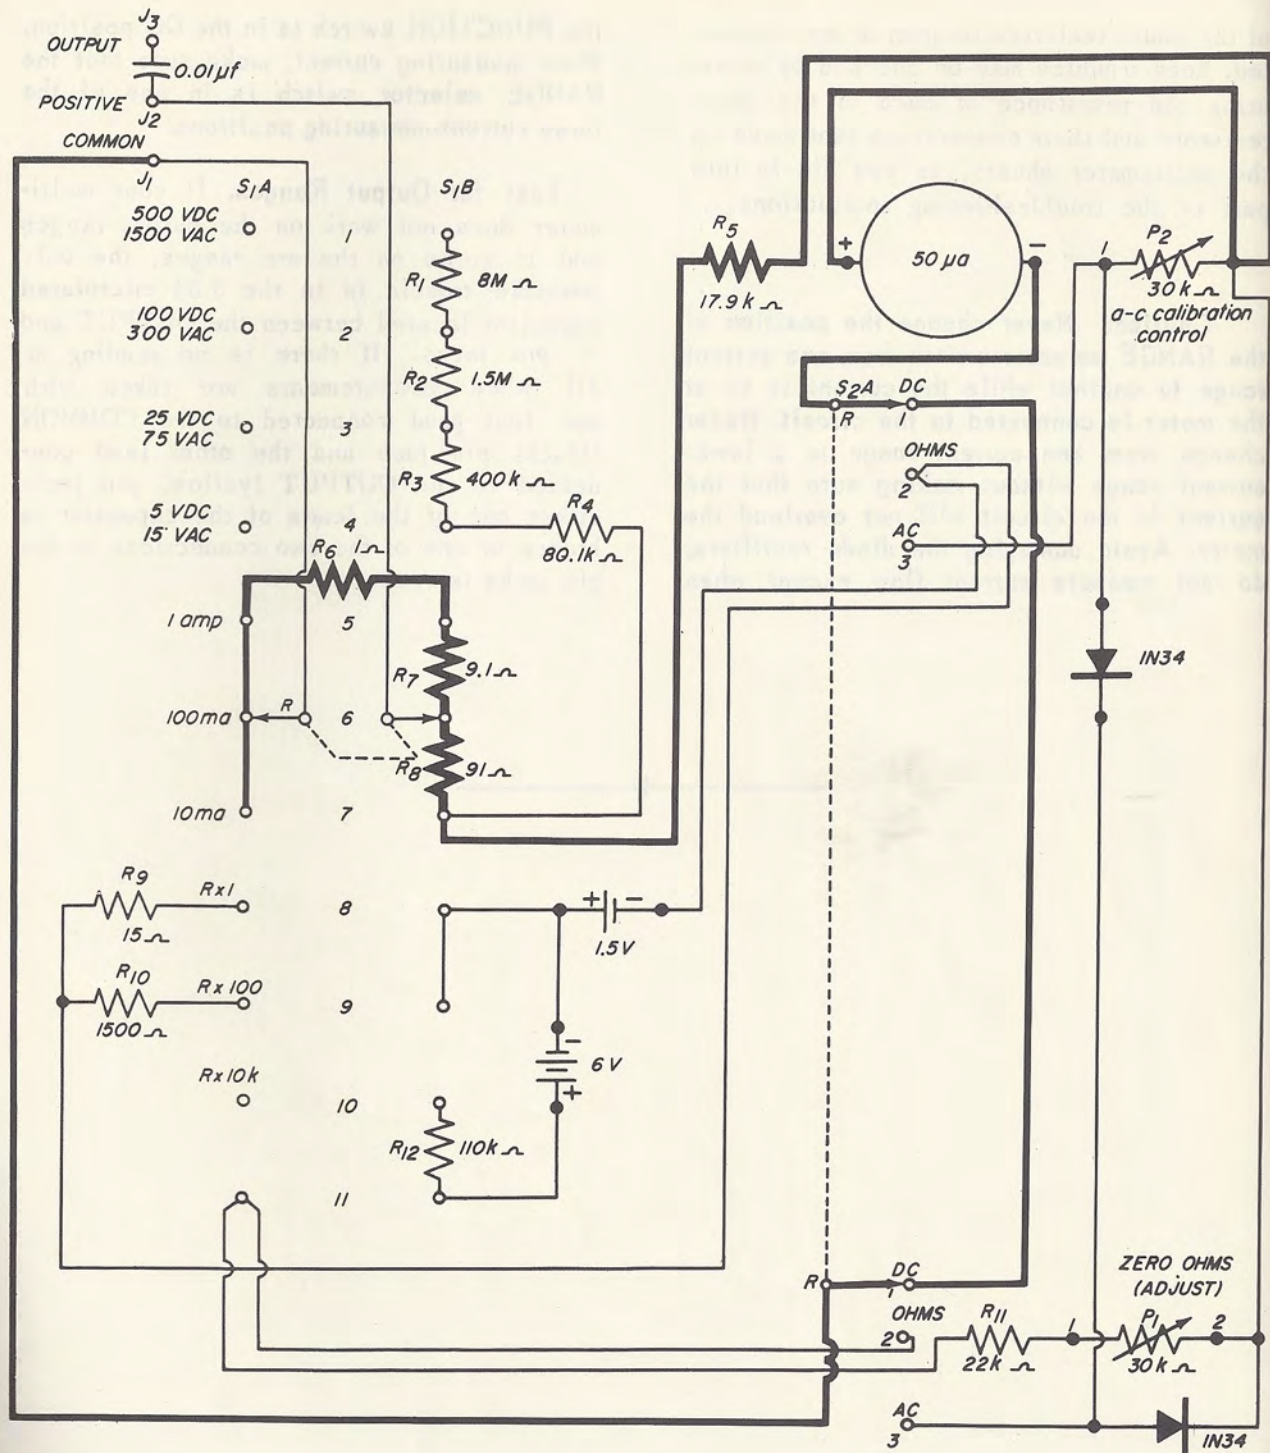

Fig. 8-18
**Tests for Milliammeter Ranges.** Figure 8-18 shows three resistors ( $R_6$ ,  $R_7$ , and  $R_8$ ) and the circuit connections that are used in the milliammeter ranges. Let us assume that the milliammeter section of the multimeter does not operate on any range. We will assume that you have checked the test leads already. The trouble can be only in the RANGE selector switch  $S_1$ . Examine the switch carefully to make sure that the rotor blade on each deck is making contact with the 5th, 6th, and 7th lugs of each deck and that the connections to lug  $S_1B_7$  are well-soldered.